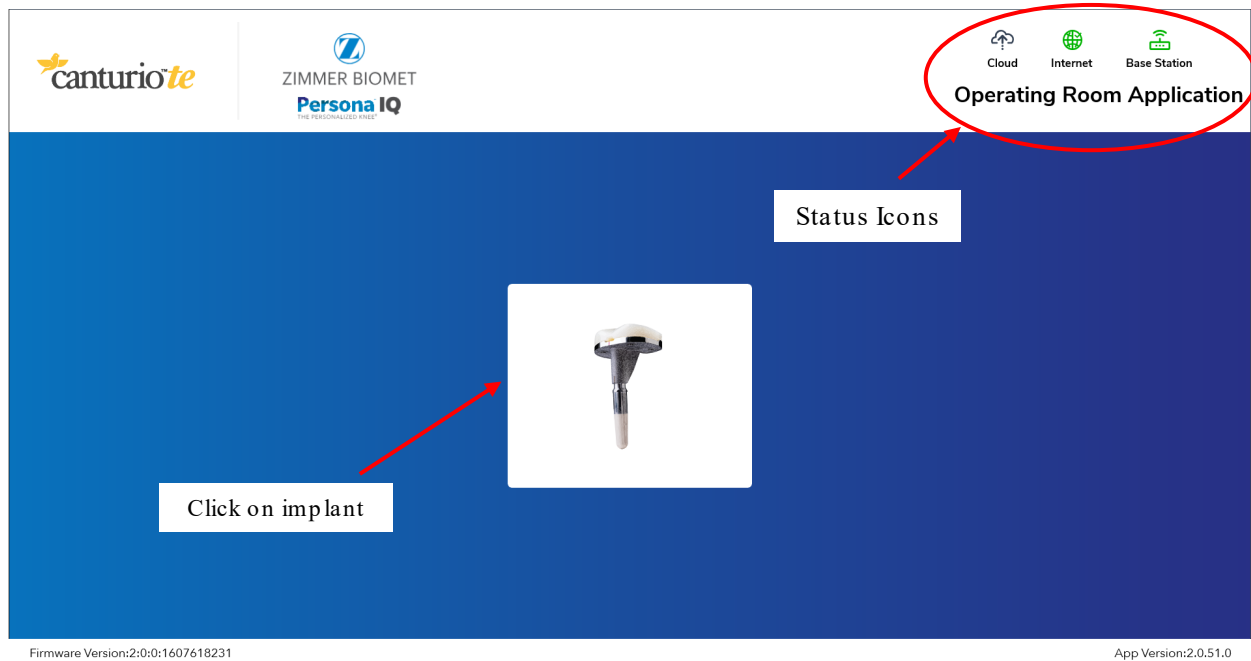

Figure 6: Login Screen
7. Click on the image of the implant in the center of the screen. The login screen will appear. See **Figure 6**.